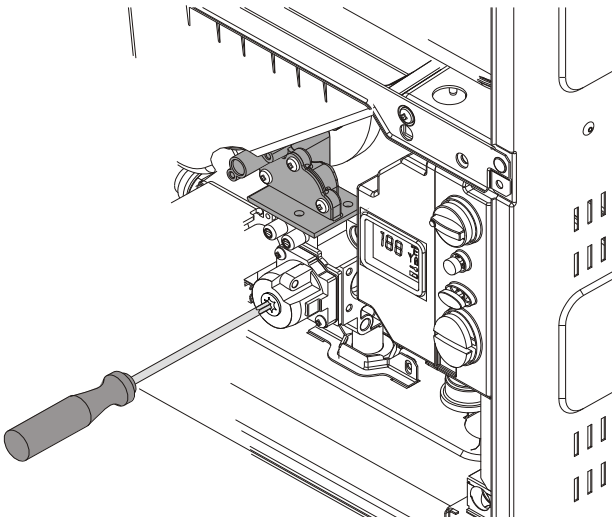

Fig. 38
- ▶ Remove yellow painted #40 Torx cover from the front of the gas valve. (Fig. 38) A plastic #40 Torx screw will be revealed.